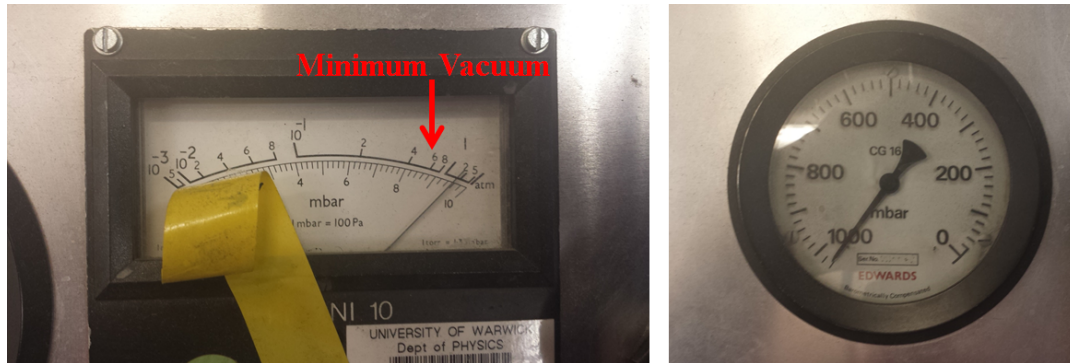

Figure 5: The two vacuum gauges.
**Step 6:** Check the butterfly nuts are still finger tight and place support under the copper crucible to ensure it does not fall out. You will now have to wait for a good vacuum. Fig. 5 shows the minimum value you should aim for (using top scale). Pump for about 3-5 minutes to make sure you have a reasonable vacuum as well.